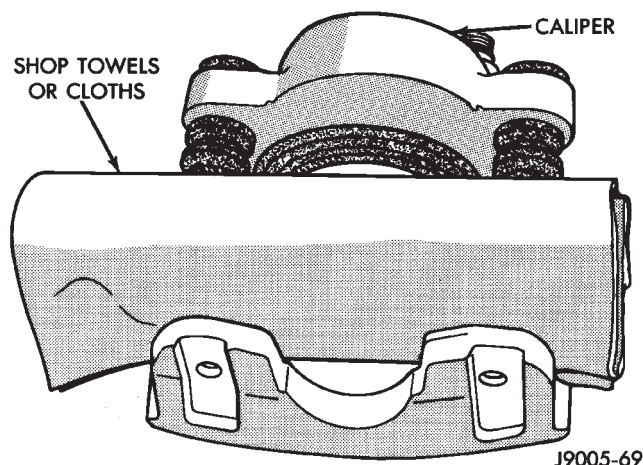

Fig. 65 Padding Caliper Interior
(1) Remove brake shoes from caliper.
(2) Drain brake fluid out of caliper.
(3) Take a piece of wood and pad it with one-inch thickness of shop towels. Place this piece in the out-board shoe side of the caliper in front of the piston. This will cushion and protect caliper piston during removal (Fig. 65).